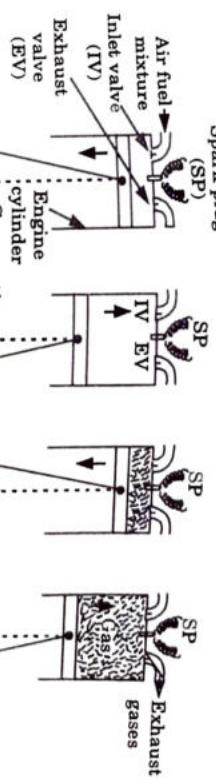

Fig. 2.5.1. Four stroke spark ignition engine.
1. Suction stroke (Fig. 2.5.1) starts when the piston is at top dead centre position and about to move toward bottom dead centre.
3. This stroke is shown in Fig. 2.5.1.